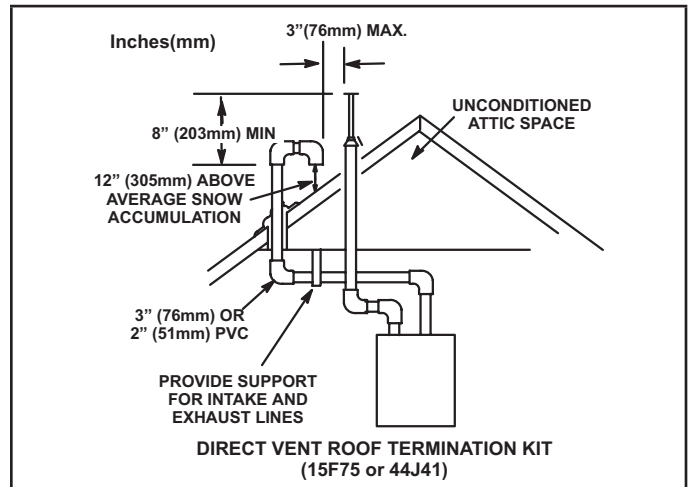
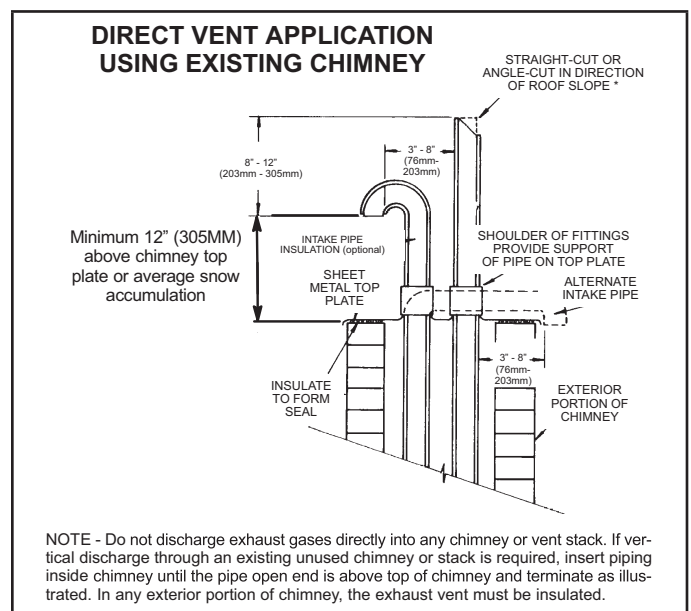

FIGURE 34
FIGURE 41
Intake and exhaust pipes may be routed either horizontally through an outside wall or vertically through the roof. In attic or closet installations, vertical termination through the roof is preferred. "FIGURE 34" through "FIGURE 41" show typical terminations.
- 3 - On roof terminations, the intake piping should terminate straight down using two 90° elbows (See "FIGURE 34").